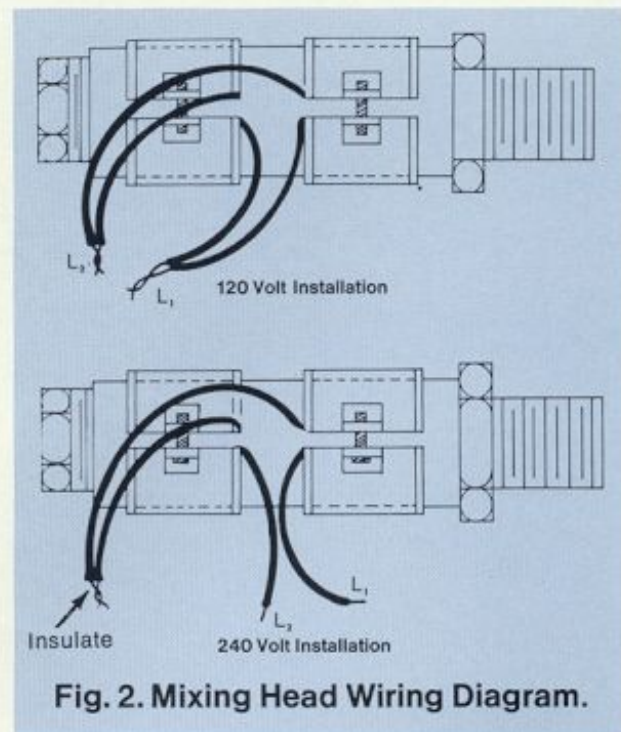

Fig. 2. Mixing Head Wiring Diagram.
5. Wire the heater bands (Fig. 2) to a 120 or 240-volt, single-phase AC circuit capable of carrying the wattage stamped on the bands.